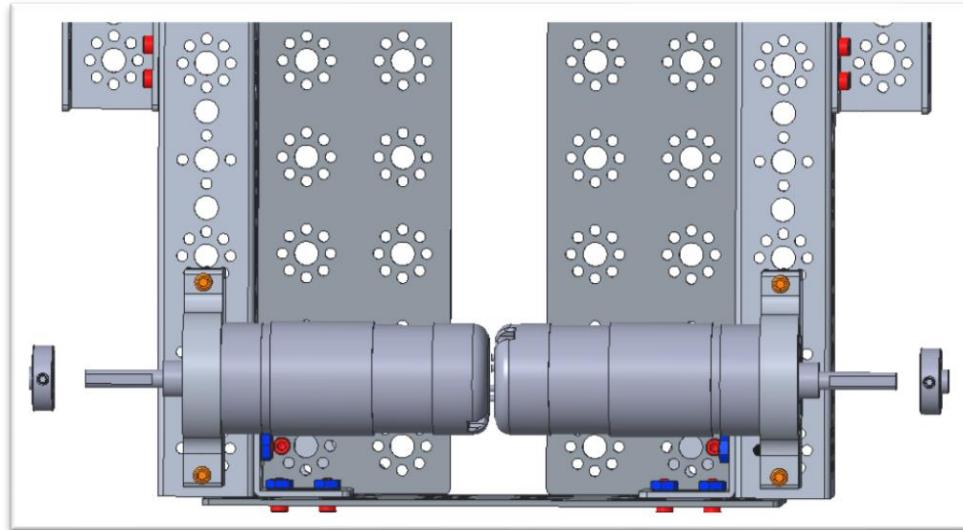

Figure 28- Unassembled view
- Mount the motor so that the axle is far away from the frame and so that the hole aligns with the slot (as shown in Figure 28).